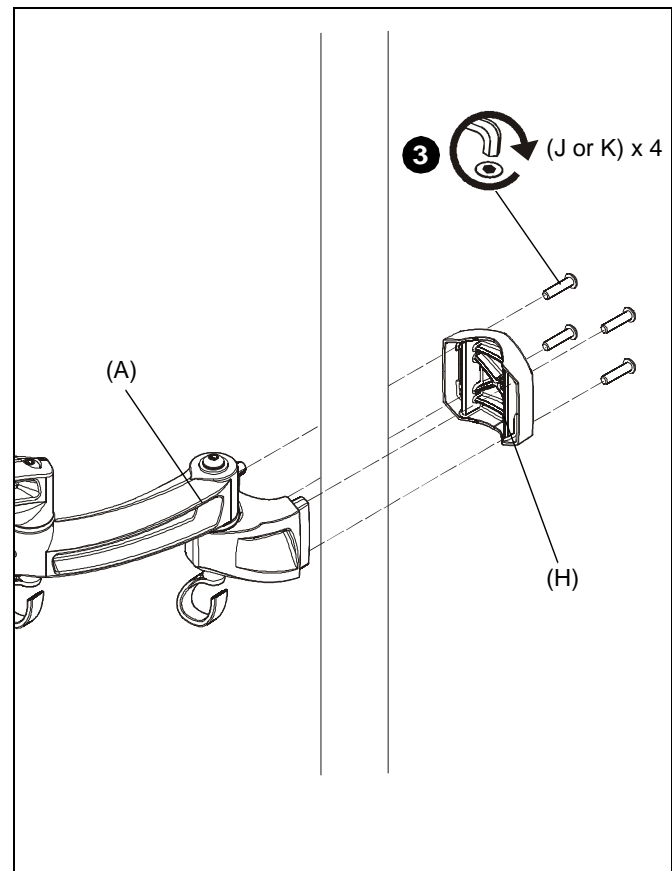

Figure 6
2. Place mount (A) against pole with clamp (H) on opposite side of pole. (See Figure 6)
3. Using 5/32" hex key (L) and appropriate length screws, loosely attach K1P assembly to pole clamp (H). If installing to 1 1/2" NPT pipe, use 1/4-20 x 1 1/2" button head cap screws (J). If installing to 1 1/2" diameter pipe, use 1/4-20 x 1" button head cap screws (K). (See Figure 6)